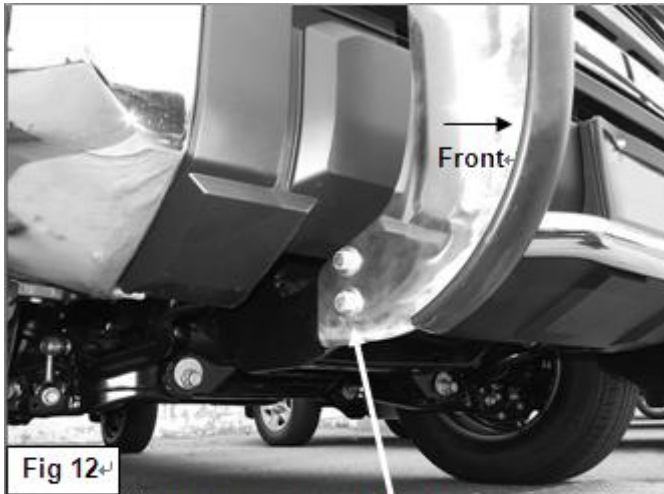

Fig 12
15. Use the (2) previously installed 12mm Hex Bolts as a hinge. With assistance, carefully rotate the Grille Guard up to the vehicle, (**Figure 11**). Line up the two remaining holes in the Mounting Brackets with the holes in the Grille Guard. Repeat **Steps 13 & 14** to attach the Grille Guard to the Brackets, (**Figure 12**). Snug but do not tighten hardware at this time.